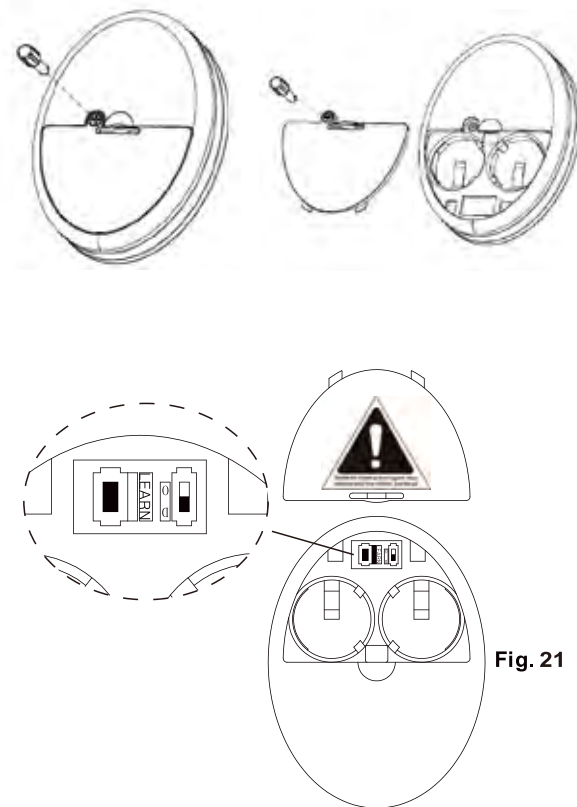

Fig. 21
ACTIVATING THE LEARNING PROCESS(Fig.21)
2. After installation is complete, AC power is turned on within 30 seconds, press and hold the LEARN button for 3 seconds. Fan will turn on at medium speed and light (if installed) will turn on. This confirms that the SMART SYNC setting is active and ok. (FIG.21)
LIGHT FUNCTION SELECT SWITCH(Fig.21)